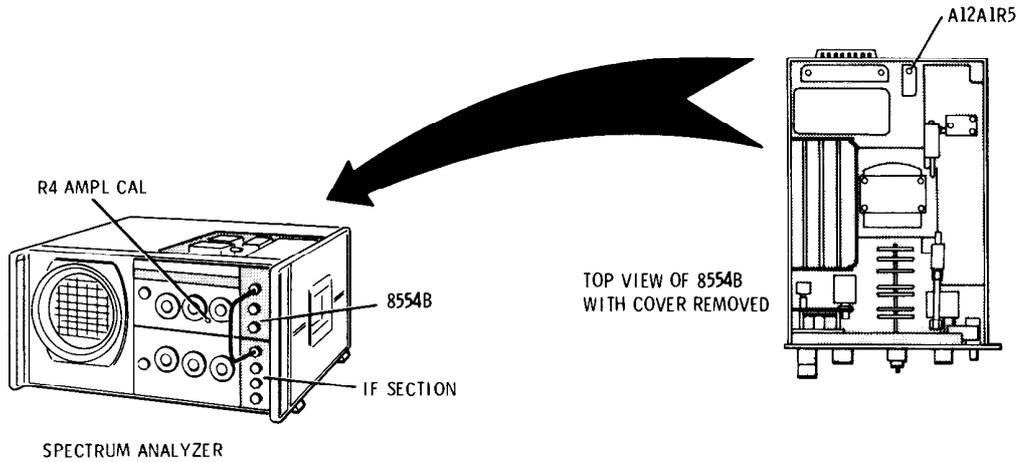

Figure 5-17. AMPL CAL and 50 MHz Gain Check and Adjustment Test Setup
2. With the test setup connected as shown in Figure 5-17, make the following control settings: